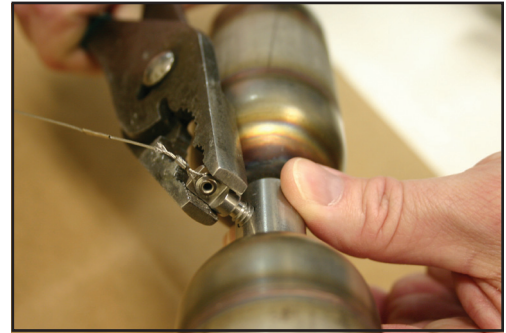

Figure 5
20. Next, you need to attach the float to the cable screw on the end of the gauge cable. Unscrew the cable bullet exposing the cable screw threads. Using the small tube of adhesive provided, place a drop or two of the adhesive onto the male threads, of the cable screw. Thread the float onto the cable screw and, while using pliers to carefully hold the float connector, snug the float onto the cable screw (See Figure 5). **NOTE: Make sure to not damage the cable with the pliers.**